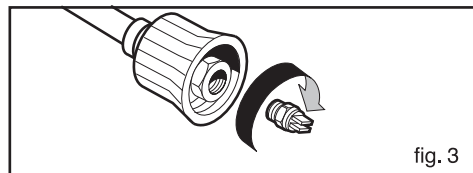
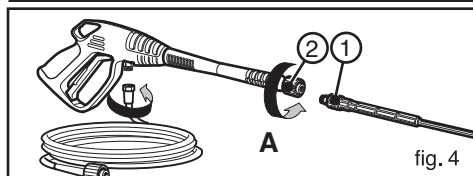

fig. 3
fig. 4
Before using the high pressure cleaner, assemble the lance onto the spray gun and the nozzle onto the lance (fig. 3). To fit the lance to the gun, it is sufficient to insert the threaded end of the lance (See fig. 6a-4 pos. 1) into the hole on the gun (See fig. 4 pos. 2); then screw the lance as indicated by the arrow (A) till when you have reached the complete coupling (See fig. 4).